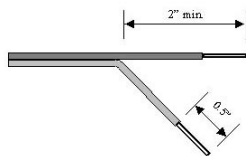

Figure 6 Speaker wire preparation
2. Strip one half inch of insulation from the end of each conductor as show in **Figure 6** for both connection cables.